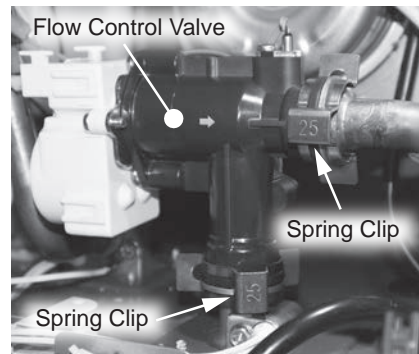

Figure 138 - Locating and disconnecting flow control valve
- 24 Locate the flow control valve in the water heater as shown in Figure 138.
- 25 Remove the two spring clips (size 25) securing the flow control valve to the piping system. Place the spring clips aside in a safe place for reinstallation. See Figure 138.